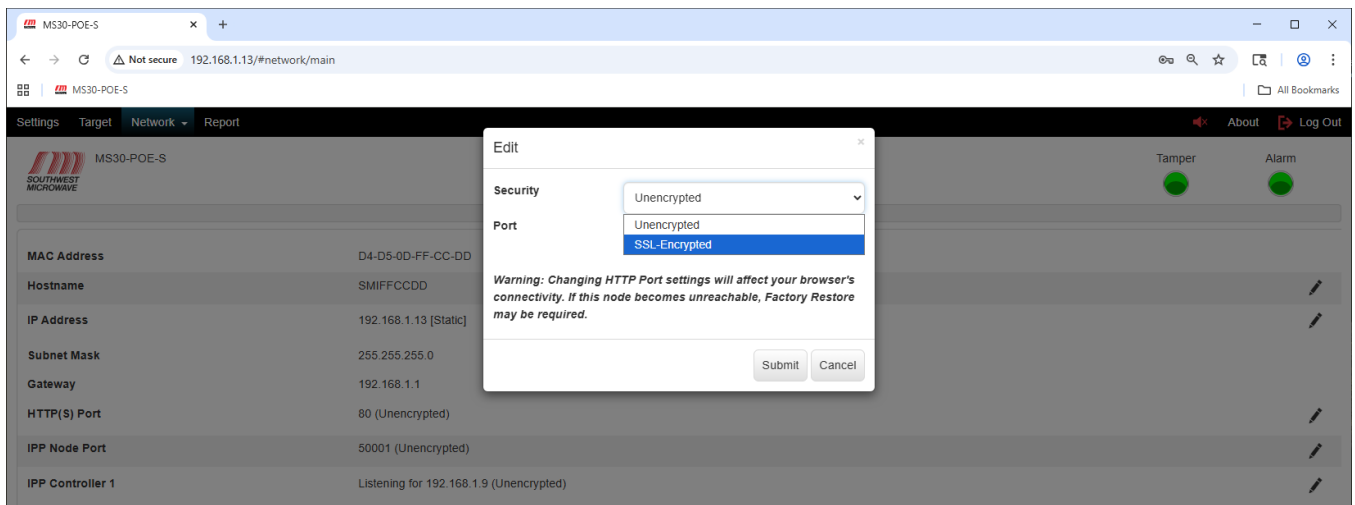

Figure 11.5 – HTTP(S) Port Encryption
To edit the security of the “HTTP(S) Port” select the “Security” pull down menu to open the SSL-Encrypted setting as shown in Figure 11.5. The default setting is “Unencrypted”.